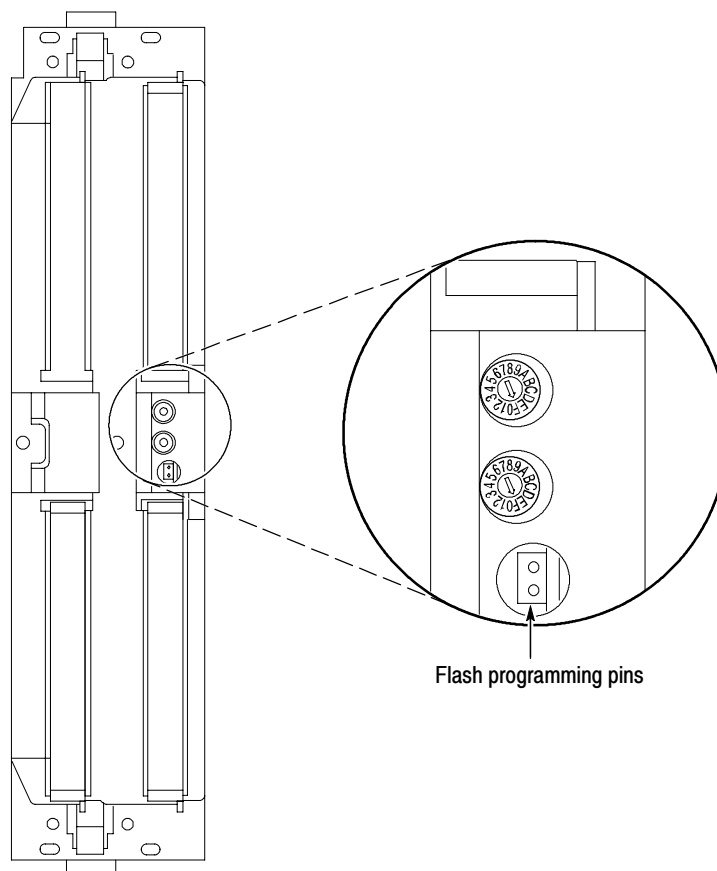

Figure 34: Flash programming pins
4. Locate the flash programming pins on the rear of each module. (See Figure 34 on page 56).
4. Locate the flash programming pins on the rear of each module. (Refer to Figure 34 on page 56).